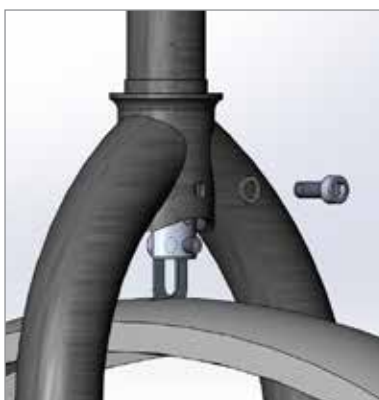

Figure 2: Attach the Fender Flute to the fork crown
2. Attach the Fender Flute to the fork crown to hold it in place, again using the M6 bolt and lock washer (figure 2).